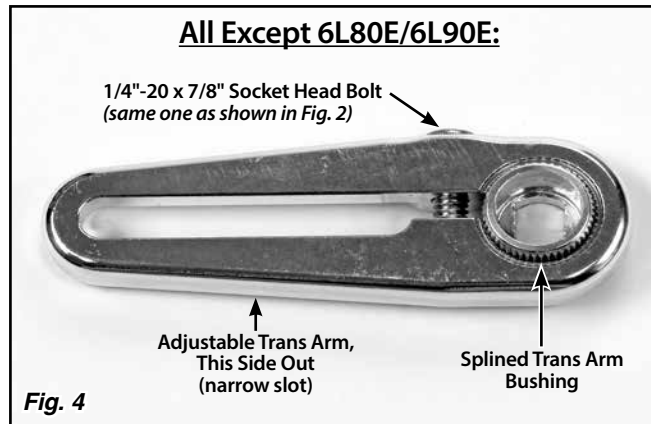
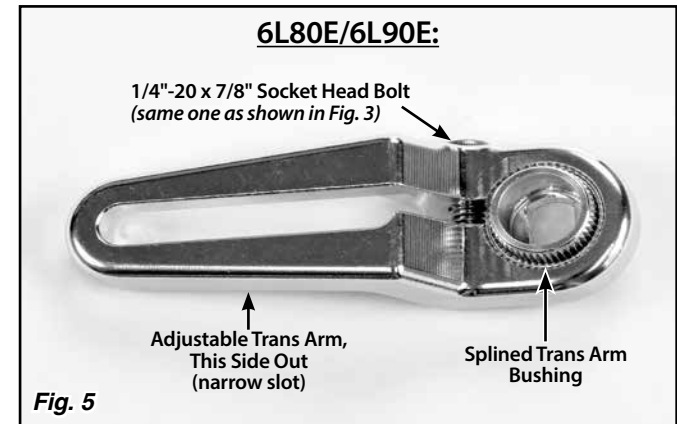

Fig. 4
Fig. 5
Step 3: Install the adjustable trans arm onto the splined trans arm bushing at approximately the 8:00 position as a starting point, with the wide slot on the side towards the transmission and the narrow slot on the side away from the transmission. See Fig. 2, Fig. 3, Fig. 4, and Fig. 5. The positioning varies per application, and it may be necessary to reposition the arm in order to be able to get the transmission into all gear positions.